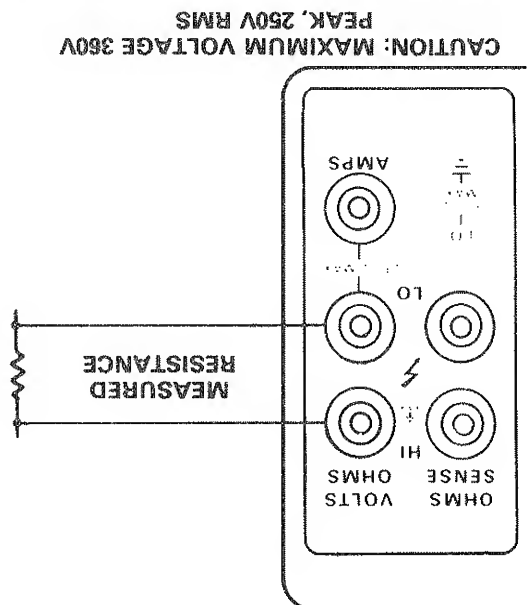
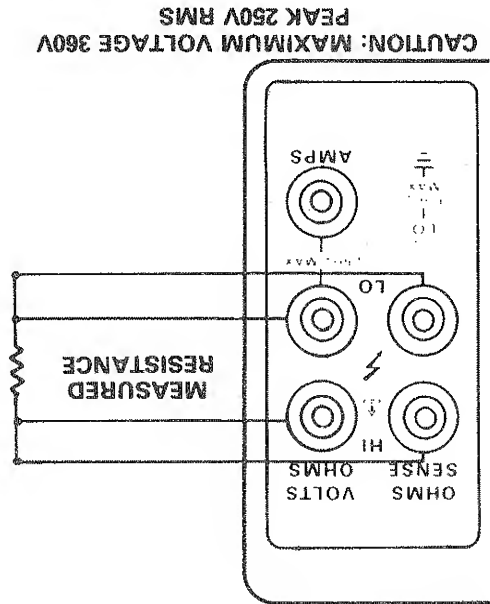

Figure 2-7. Two-Terminal Resistance Measurement (Front Panel Connections Shown)
Figure 2-8. Four-Terminal Resistance Measurements (Front Panel Connections Shown)
5. For 2-wire measurements, connect the instrument to the measured resistance as shown in Figure 2-7. For 4-wire measurements, use the connections shown in Figure 2-8.